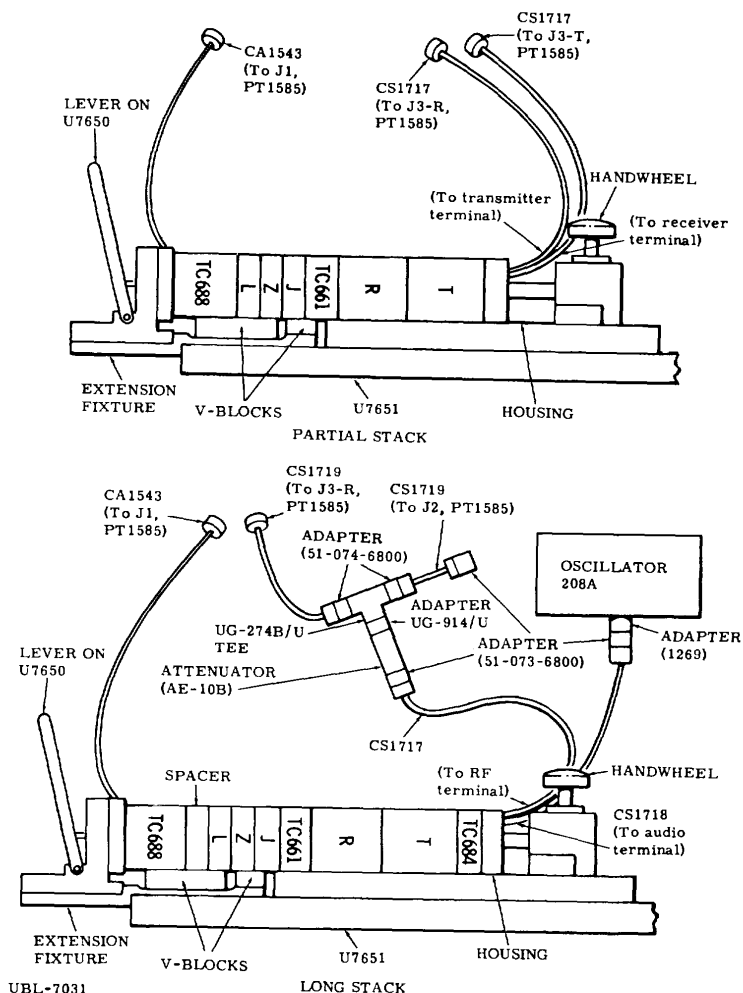

Figure 4-3Y. Test Setup for MA138 Seismic AUDET (G)
d. Starting at left end of stack shown in figure 4-3Y, place first module in tray so that male pins are to left, toward U7650. Similarly place other modules and housing; align marks and keys and keyways.
e. Feed right angle connector ends of cables shown in figure 4-3R through housing, connect cables to transmitter and PT1585 (figure 4-3Y), and position housing on fixture.